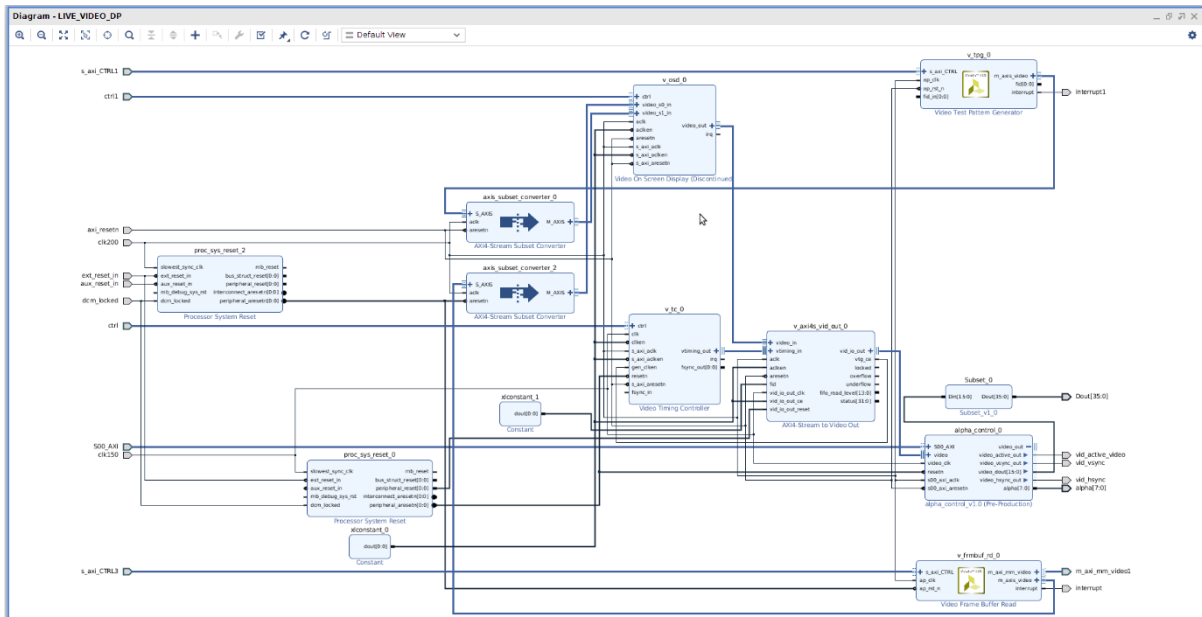

Figure 20. Live video DP block
8. Examine the Live Video Display Port (DP) block (see Figure 20). The output video path is through the live video DP output provided by the Zynq ZU3EG. To access this, the frame is read out of the processing system DDR memory and converted from an AXI Stream into a parallel video (pixel, HSync, VSync). This parallel video is timed by the video timing controller.